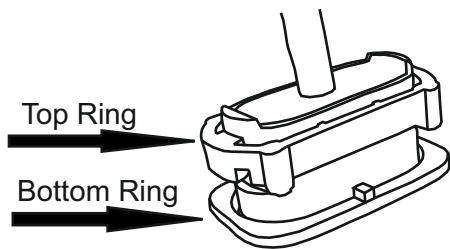

Fig. 3
- 2) The sensor module is fitted to the outer cover with a top ring and bottom ring as shown in Fig. 3